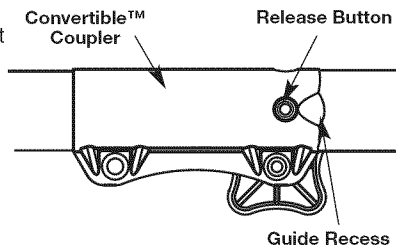
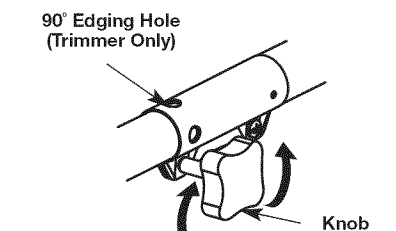

Fig. 2
Fig. 4
WARNING: Before operating this unit, be sure that the release button is fully snapped into the primary hole (Fig. 2), and that the knob (Fig. 4) is securely tightened.
- Turn knob counterclockwise to loosen (Fig. 4).
NOTE: Aligning the release button with the guide recess will help installation (Fig. 2).
- Turn the knob clockwise to tighten (Fig. 4).
NOTE: When using the line trimmer or other attachment to edge, lock the attachment release button into the 90° hole (Fig. 4).
- Turn the knob counterclockwise to loosen (Fig. 4).
- Press and hold the release button (Fig. 2).